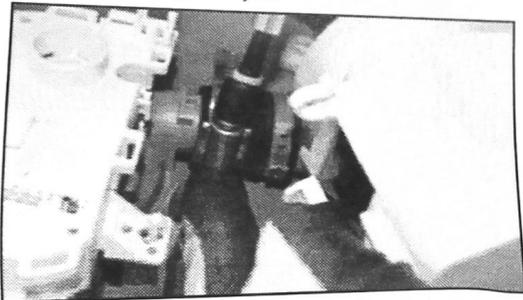

FIGURE 7
- c. Reinsert open end into worm-gear and engage clamp by turning screw using a 1/4" nut driver. See Figure 7.